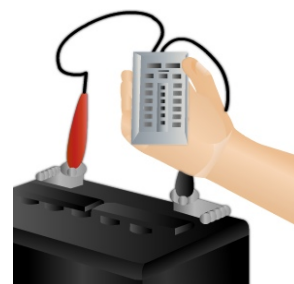

Figure 8-5 — Battery voltage test.
- The battery voltage test is done by measuring total battery voltage with an accurate voltmeter or a special battery tester (*Figure 8-5*). This test determines the general state of charge and battery condition quickly.